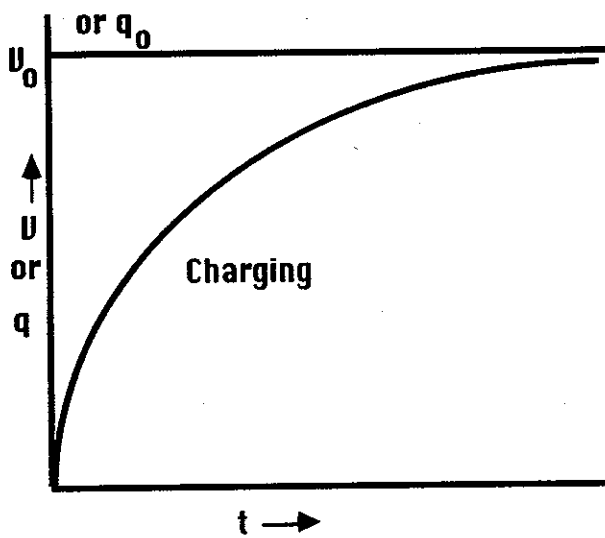

Fig. 8-2
The curve showing V or q plotted against time [Eqs. (1) and (2)] for the process of charging is shown in Fig. 8-2. Note that V (or q) approaches V_0 (or q_0) asymptotically